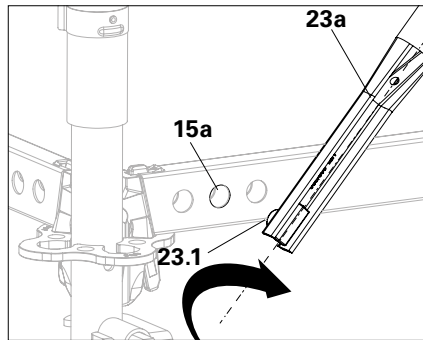

Fig. A4.06a
1. Bring the Ledger Brace UBL-2 (**23**) parallel to the basic scaffold and turn it so that the mounting finger (**23.1**) points upwards. (Fig. A4.06a)